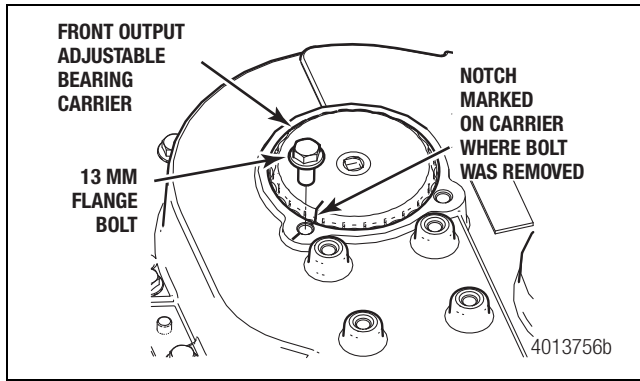

Figure 5
4. Beginning with the front output adjustable bearing carrier, mark the exact notch/position of the case and carrier where the 13 mm retaining flange bolt is located. With the carrier to case position marked, remove the 13 mm retaining flange bolt. DO NOT rotate the carrier until AFTER the reference mark has been made. Figure 5.